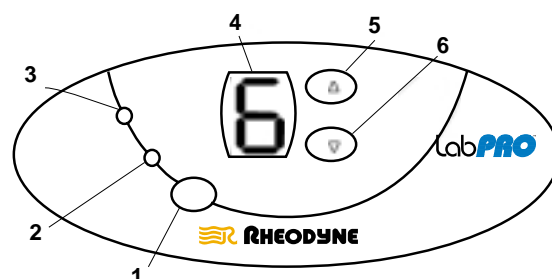

Fig. 11. Column Selector displays and manual selectors.
1. The Column Selector control panel is shown in Figure 11. Display and operations are:
- a) Local-Remote button (1)
- b) Remote indicator light (2)
- c) Local indicator light (3)
- d) Valve/column position [LED] (4)
- e) Manual forward position selector button (5)
- f) Manual reverse position selector button (6)